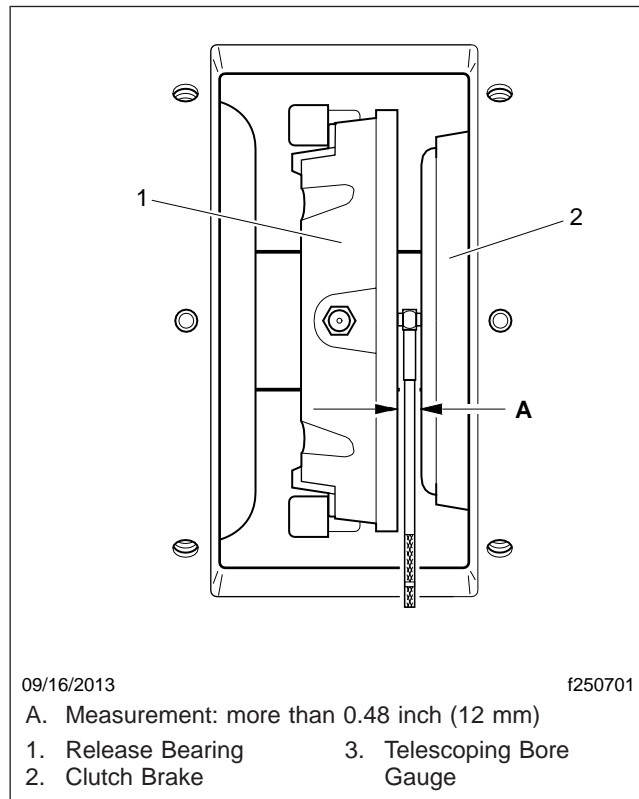

Fig. 6, Clutch Gap
- Using a telescoping bore gauge, measure the gap between the clutch brake and the release bearing, then measure the gauge with a digital caliper. The distance should be more than 0.48 inch (12 mm). See Fig. 6.